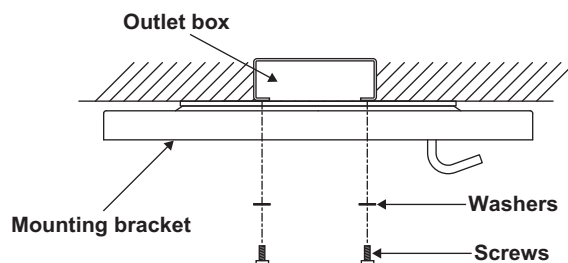

Figure 8
Step 2. Attach the mounting bracket to the outlet box using the two screws and washers provided with the outlet box. For best performance be sure the mounting bracket is level and secured firmly against the ceiling. You may need to insert additional washers (not provided) between the outlet box and mounting bracket to make it level. (Fig. 8).